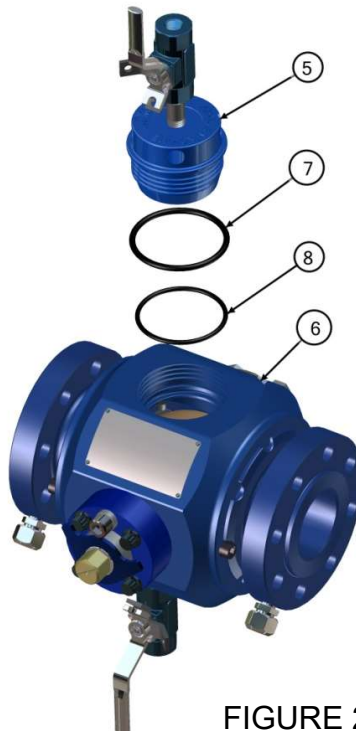

FIGURE 2
- 1) To remove entry plug (5), (**FIGURE 2**) from the body use the appropriately sized Argus closure wrench or dowel and “dead blow” hammer to rotate the entry plug in a counter-clockwise direction.
- 2) Remove the entry plug weather seal (7) from the outside of the entry plug.
- 3) Remove the entry plug o-ring (Primary Seal) (8) from the groove inside of the entry opening of the body.